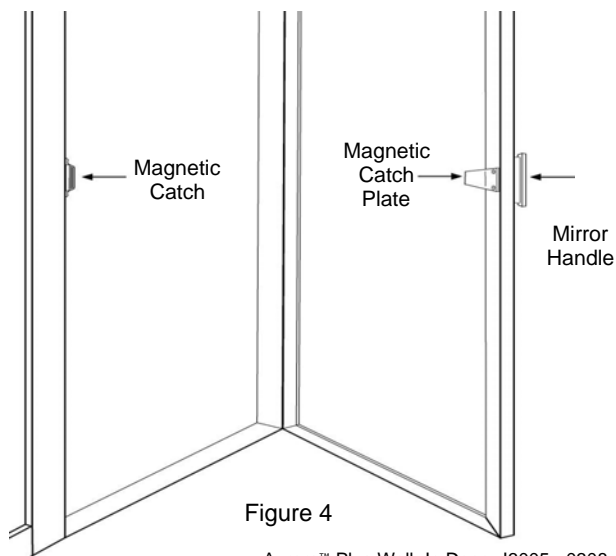

Figure 4
- B. Open the door. Clean the backing where the plate will be taped. Peel the backing off of the 2-way tape on the Magnetic Catch Plate (#5). On the back of the door's Aluminum Frame Mold (#3), immediately behind the Mirror Handle (#2), align the bent end of the Magnetic Catch Plate with 2-way tape (#5) and press the 2-way tape against the backing of the Wardrobe Door (#1). Refer to the IPB drawing for assistance. Use a 7/64 Drill Bit to very carefully drill two holes through the Magnetic Catch Plate with 2-way tape (#5) and into the Aluminum Frame Mold (#3). Secure the Magnetic Catch Plate with 2-way tape (#5) to the back of the Wardrobe Door (#1) with the two #6 x 1/4 PH SMS Screws (#10) (See Figure 4).